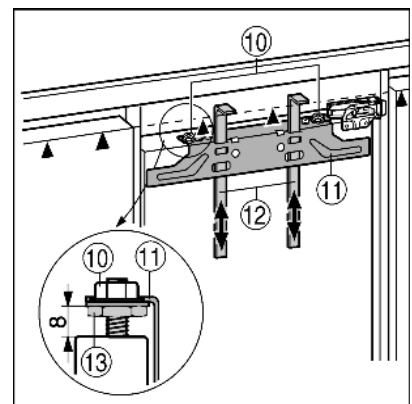

Fig. 16
- ▶ Push up assembly aids Fig. 16 (11) to unit door height. Lower edge ▲ of the assembly aid = top edge of the unit door to be fitted.
- ▶ Unscrew fastening crosspiece Fig. 16 (11) by undoing the locknuts Fig. 16 (10).